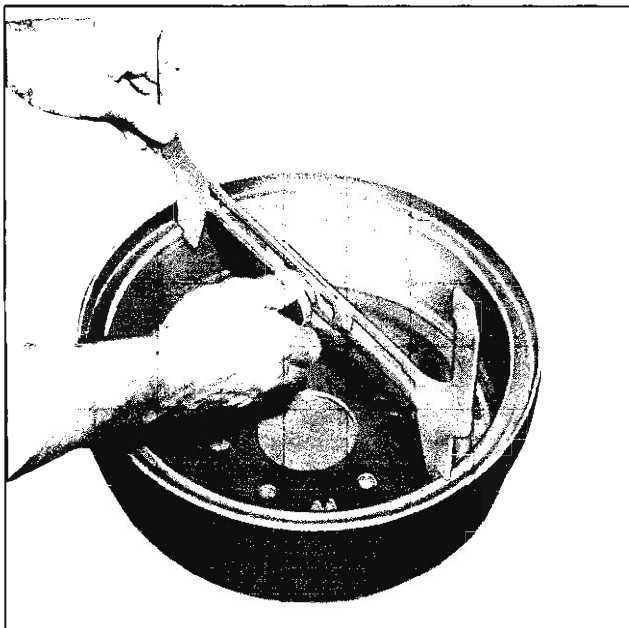

Fig. 12—Using Drum-to-Brake Shoe Clearance Gauge
- a. Use special Tool J-21177, Drum-to-Brake Shoe Clearance Gauge, to check the diameter of the brake drum clearance surface (fig. 12).